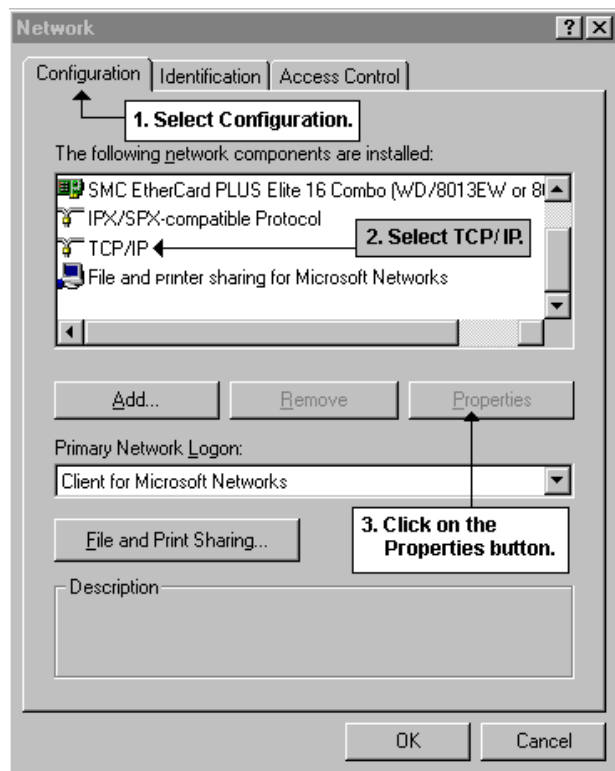

Figure 3-7 Windows 9x â
- a. For Windows 95® or 98®: Select **Configuration| TCP/IP| Properties**. (Figure 3-7)